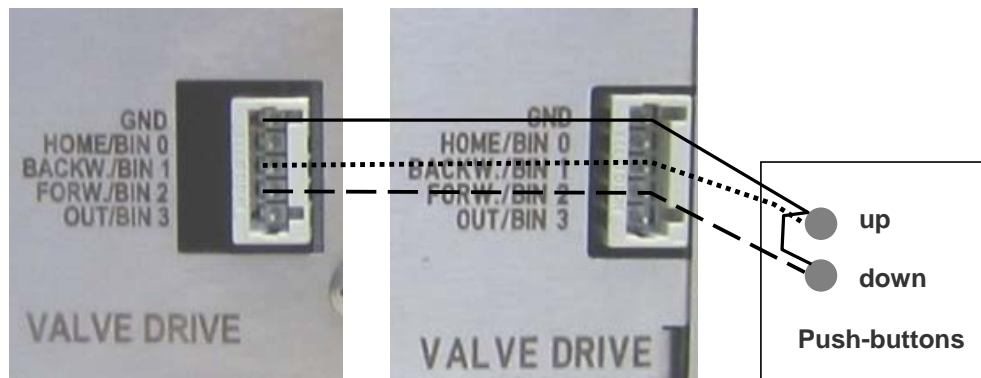

Fig. 5 Electrical connections of the push-buttons on the Smartline Assistant 6000 V044
4. Install the universal mounting bracket (A5431) on the Smartline Assistant 6000 (A5003V044) and connect the cable for the push-buttons as shown in Fig. 5. Finally, screw the manual injection valve onto the mounting bracket.